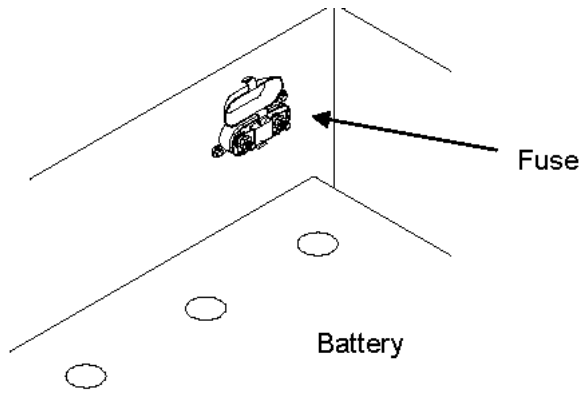

Figure 9
11. Route the positive +24VDC battery cable from the power unit to the battery. Install the flexible conduit under the battery box opening. Install the fuse holder (13) inside the battery box (figure 9). Use the short cable to connect the fuse to the battery. Fill power unit with hydraulic fluid.